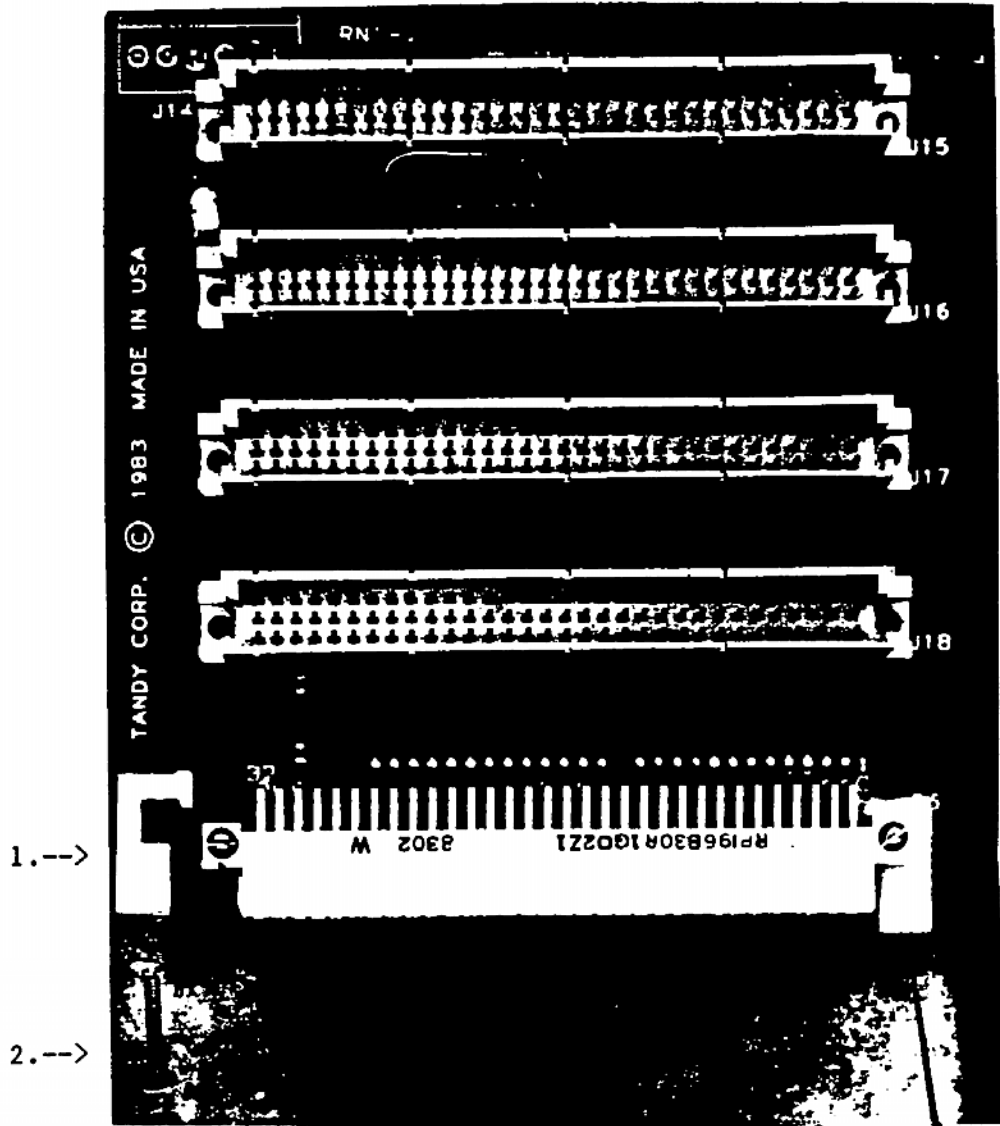

Figure 1.
3. (Refer to figure 1.) Remove screws and nuts holding (P6)(96-pin connector) to the motherboard. Replace the original screws with the #4 x 1/4" screws and the #6 lock washers. These are used to hold the retainer clips tightly in place.
4. (Refer to figure 1.) Place the retainer clips over the screw ears of the connector (P6) behind #6 lock washer if used.